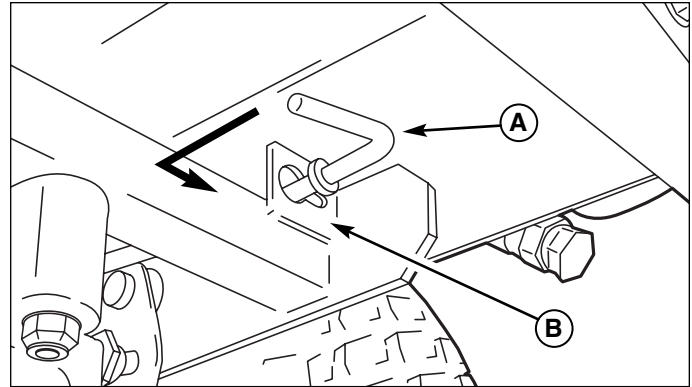

Figure 1. Roll Release Components (On Each Side)
3. Place transmissions in the roll release position by pushing the roll release rods (A, Figure 1), located under the rear of the unit behind each transmission, in toward the transmission until the collar on the neck of each rod passes through the keyhole in the roll release plate (B). Then lock the rod in the roll release position by sliding the rod sideways into the keyhole slot.